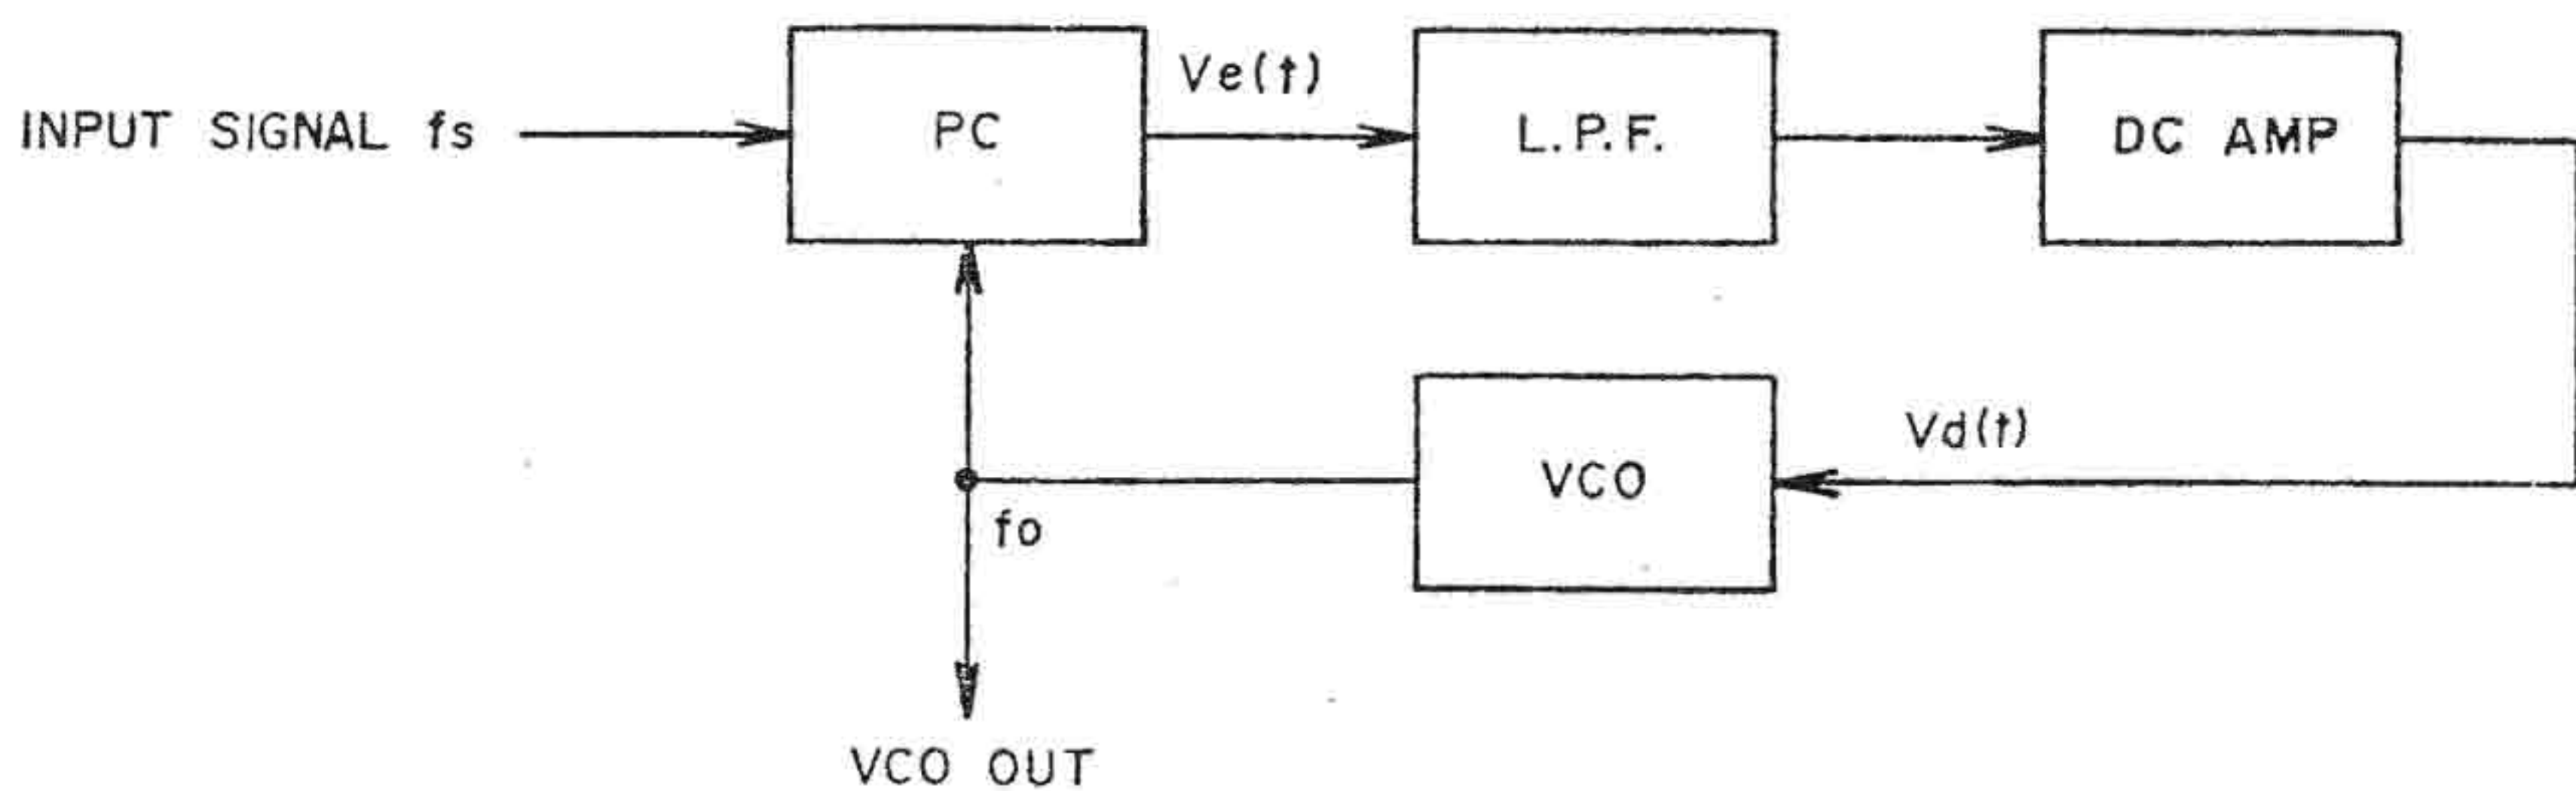
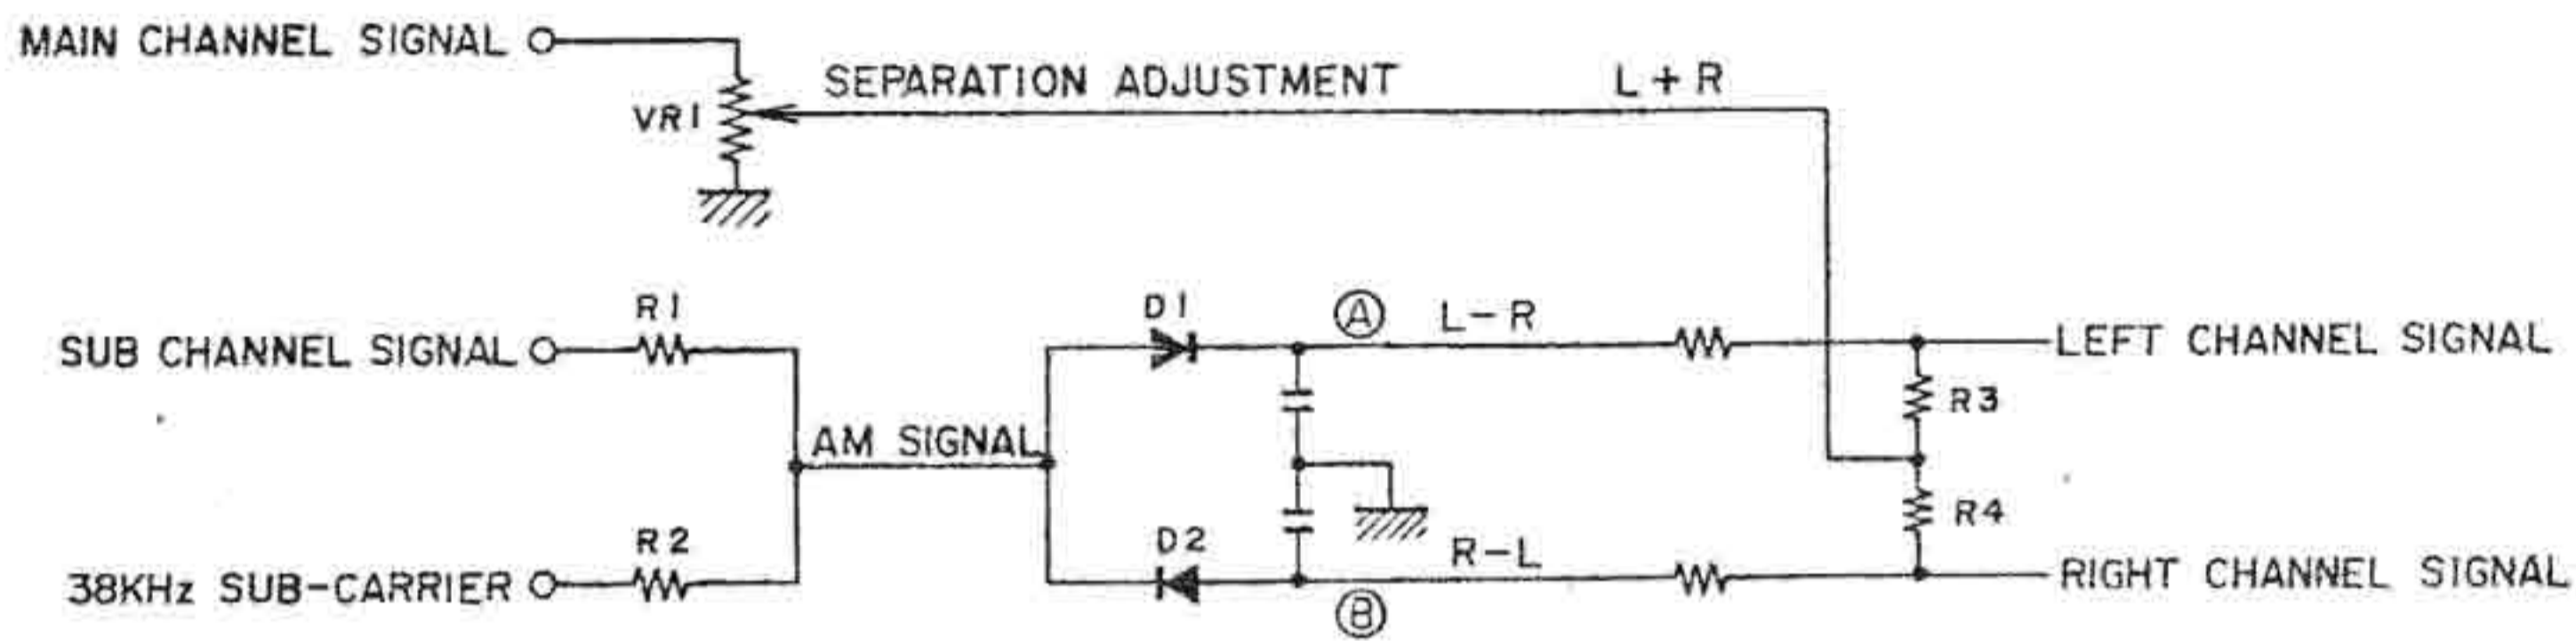

Fig. 13 PLL Circuit
Fig. 16 Multiplex Decoder
PLL circuit is a kind of feedback circuit and is comprised of a Phase Comparator (PC), a Low Pass Filter (LPF), a Direct Current Amplifier (DC Amp), and a Voltage Control Oscillator (VCO) as shown in Fig. 13.
Accordingly, for composite stereo signal demodulation, the sub carrier used for demodulation at the transmitter must be the same uniform 38 kHz signal as the frequency and phase. If the 38 kHz waveform is asymmetrical, channel separation will become poor. At the PLL employed MPX stereo demodulator circuit, as shown in Fig. 13 first a 76 kHz signal is oscillated and when this passes the divider, a symmetrical 38 kHz signal is obtained. This 38 kHz sub carrier is supplied to the multiplex decoder together with the sub channel of the composite stereo signal. At the multiplex decoder, left and right channel audio signals are separated in order as shown in Fig. 16. The 38 kHz sub carrier composited with the sub